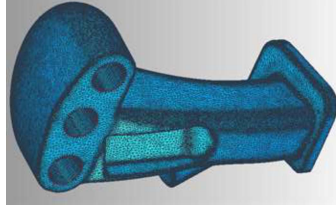

Figure 105
- Rotate model as shown in **Figure 105**, observe the reorganization of the mesh.